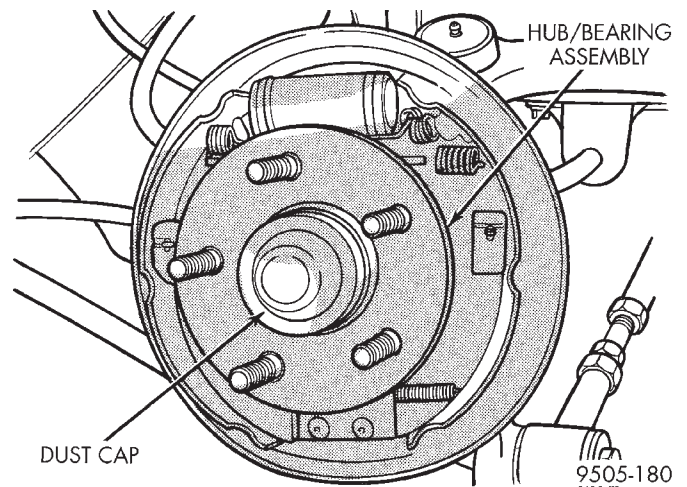

Fig. 155 Rear Hub/Bearing Dust Cap
(18) Remove dust cap (Fig. 155) from rear hub/bearing assembly.
(6) Install hub/bearing assembly dust cap, (Fig. 155) using a soft faced hammer.